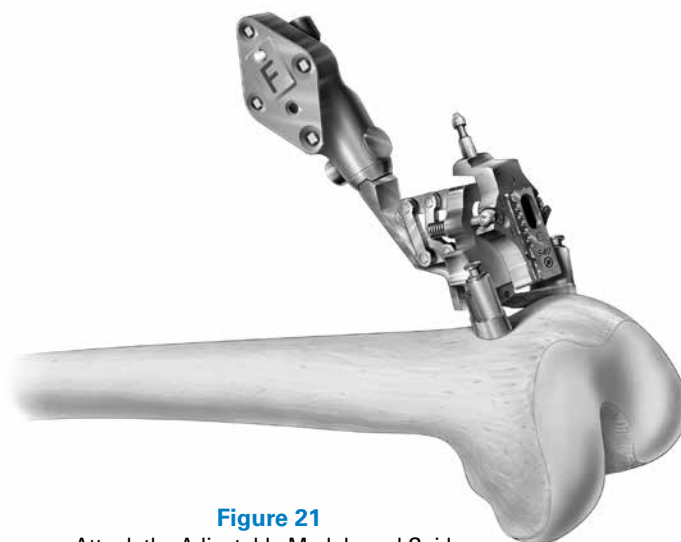

Figure 21
- Press button on Adjustable Module and attach to Femoral Base (Figure 21)
- Press button on Guide Tracker (G) and attach to Adjustable Module